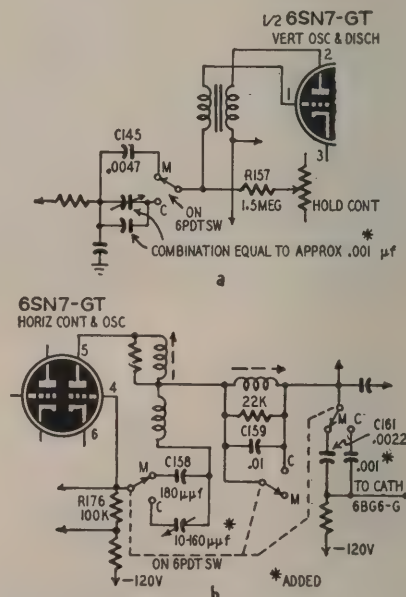

Fig. 6—Color changes, Synchroguide; Colortone unit uses similar circuits.
The Colortone adapter uses a circuit similar to that shown in Fig. 6. It is mounted externally and multilead cables are used. All color-position parts are located in the adapter and a few of the monochrome parts are removed from the receiver because they are duplicated in the adapter.
1. Removal of .0047-μF time-constant capacitor (C145) in the grid circuit of vertical blocking oscillator. This capacitor is replaced by a similar capacitor in the adapter plus one of a lower value for the color field rate, Fig. 6-a.
2. Removal of the 180-μF capacitor (C158) that sets the frequency of synchroguide oscillator. This capacitor is also replaced (at the factory) by a similar one in the adapter and a separate trimmer for color position, Fig. 6-b.
3. The .0022-μF sawtooth-forming capacitor (C161) is removed from the horizontal circuit. This is duplicated by a similar capacitor in the adapter and one of a still lower value is switched in for color, Fig. 6-b.